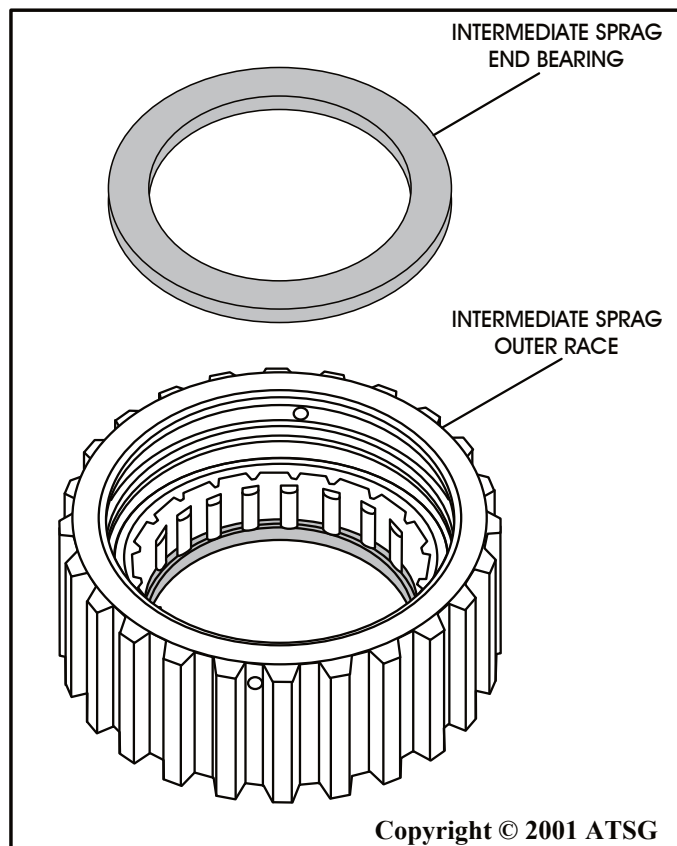

Figure 107
8. Install the second end bearing on top of the sprag cage with the smooth side facing up, as shown in Figure 107.